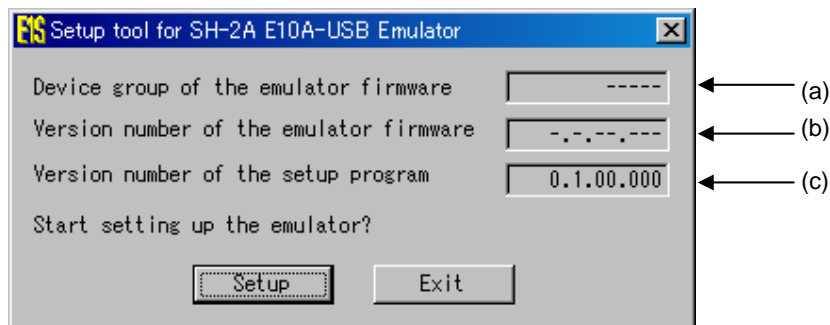

Figure3.2.9 E10A-USB Emulator Setup Tool
(3) Press "Setup"(Figure3.2.9). The dialog box shown below will be displayed.